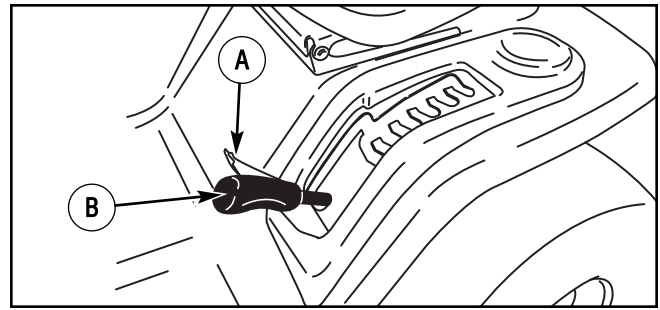

Figure 30: Deck lift lever
2. Open the deck level position cover, and move the **deck lift lever** to the level adjustment position (Figure 30).